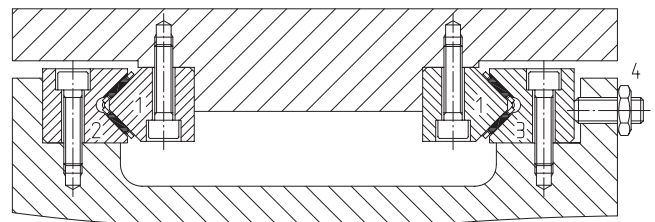
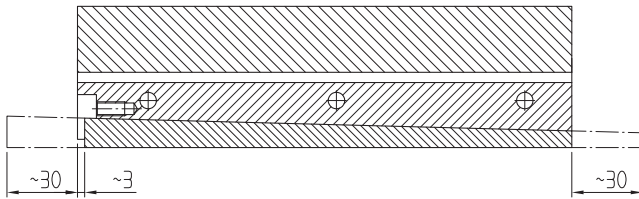

Figure 27. Preload.
Figure 29. Inserting and shortening the adjusting gib
Preload adjusting guideway (3) with pressure screws (4) (figure 27) (with gib for ML guideways) (figures 29 to 31).
If the preload force is adjusted over ML- guideways with an adjusting gib, the following procedure should be followed: push the adjusting gib under the ML guideway and adjust the guidance system free from clearance (figure 29). Shorten the unhardened gib on the adjustment side of the guideway so that it is approximately 3 mm short of the front side of the guideway (figure 29). Shorten the opposite side of the gib flush with the end of the guideway.